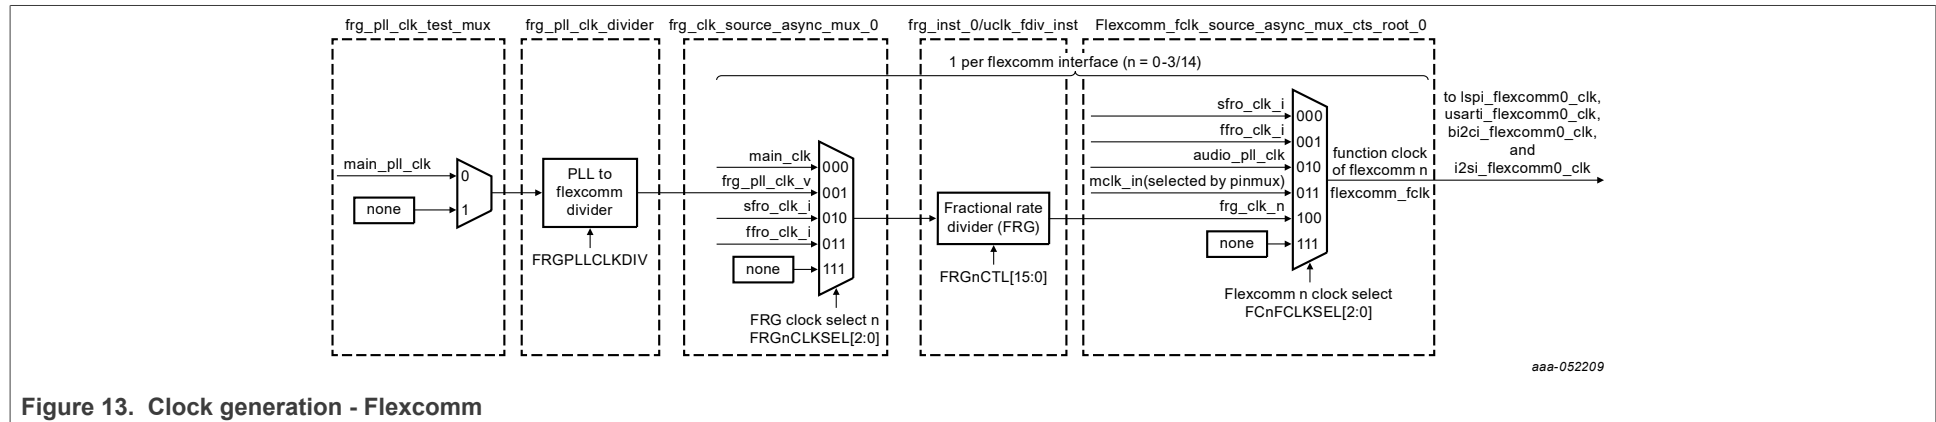

Figure 13. Clock generation - Flexcomm
- Figure 13 "Clock generation - Flexcomm"